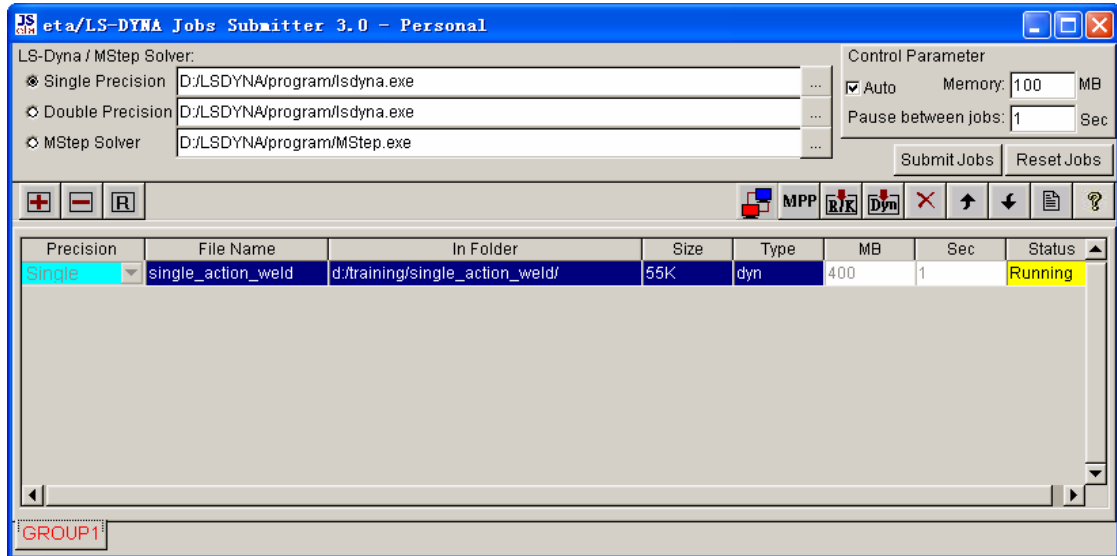
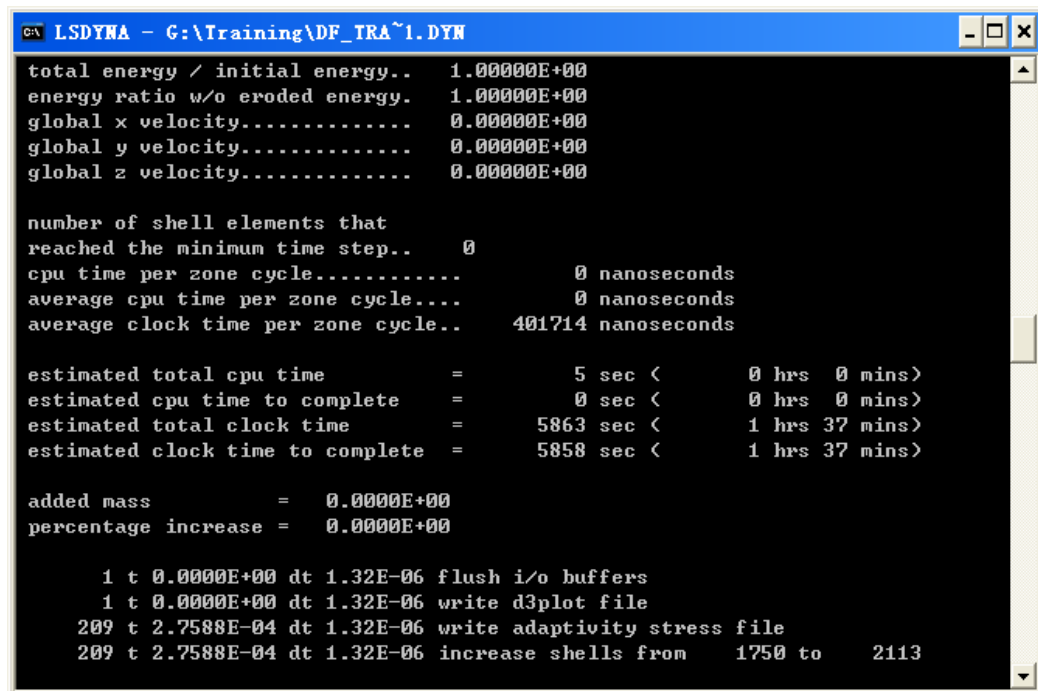

Figure 5.80 Submit job interface
Figure 5.81 LS-DYNA solver window
3. Click **Submit** button from the SUBMIT JOB dialog box to display the Job Submitter interface illustrated in Figure 5.80.
4. Click **Submit Jobs** button, as shown in Figure 5.80 to activate the LS-DYNA solver for running the stamping simulation. The LS-DYNA solver window illustrated in Figure 5.81 is displayed and the simulation is in progress.